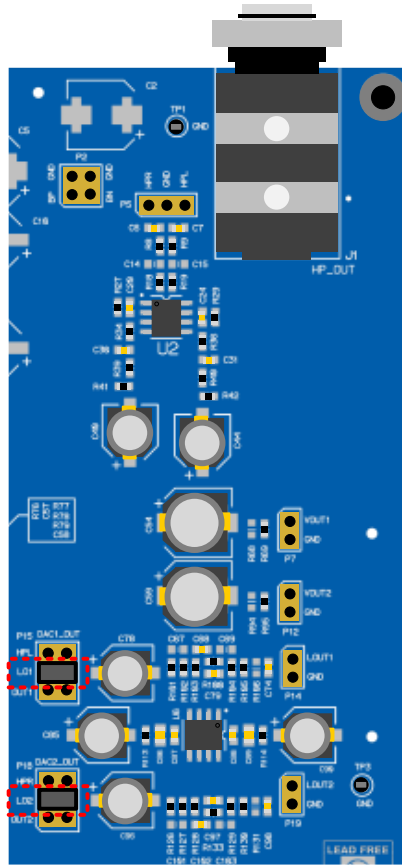

Figure 14: DAC Output to LOUT1/LOUT2
- LO1/2 – 4.2 V_{RMS} output on Dunglass OUT3 and OUT4, shown in Figure 14.